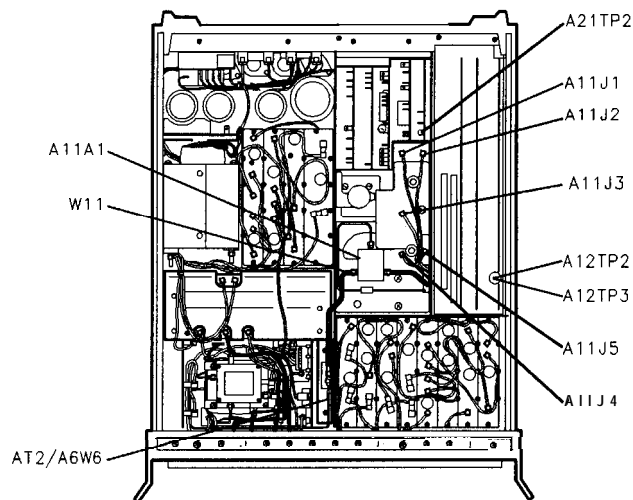

Figure 3-70. Location of Assemblies, Cables, and Test Points
2. Disconnect semi-rigid coax cable W11 from A11A1 CIA Assembly's YTO OUT connector. Disconnect the opposite end of W11 from AT2 (for RF Sections 2526A and below, disconnect from cable A6W6). See Figure 3-70 for the location of A11A1, W11, A6W6, and AT2.
3. On the All YTO Loop Assembly, disconnect the cable 8 (gray) from A11J1 PHASE DET OUT, the cable 93 (white/orange) from A11J2 M/N IN, and the cable 5 (green) from A11J3 20/30 IN. Disconnect cable 0 (black) from A11J4 IF IN and A11J5 IF OUT. See Figure 3-70.
4. Connect a jumper between A12TP2 and A12TP3 (LOCK INDICATOR DISABLE) on the A12 Front Panel Interface Assembly in the RF Section. Connect a jumper between A21TP2 TUNE VOLTAGE and the RF Section chassis ground. See Figure 3-70.